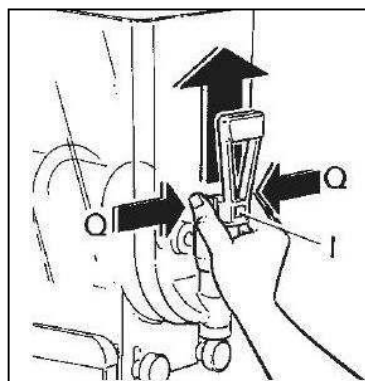

Fig. 12
- Simultaneously apply pressure to the two securing tabs (Q), and lift the dispensing tap (I) to pull it out of its fixed position (see figure 12).